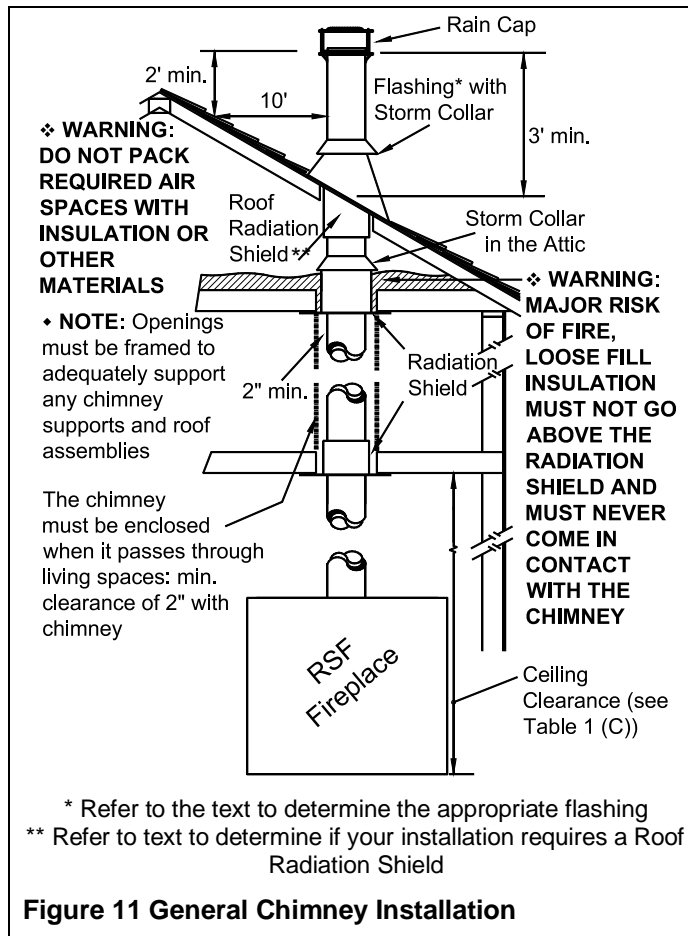

Figure 11 General Chimney Installation
2. From below, install a radiation shield in each floor through which the chimney passes. At the attic level, install a radiation shield and a storm collar as shown in Figure 11.